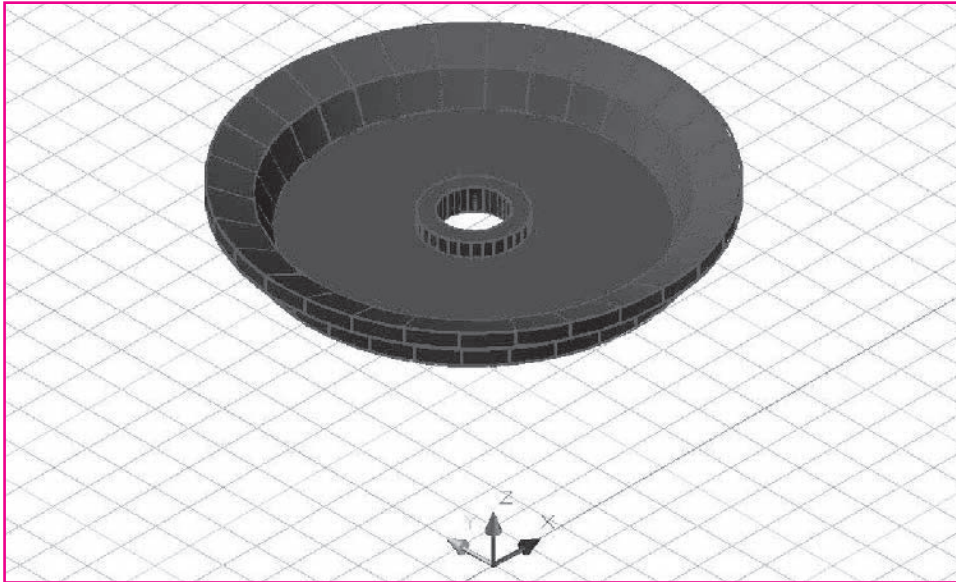

Fig. 48-5
6. Pick the **SW Isometric** view, as shown in Fig. 48-5.